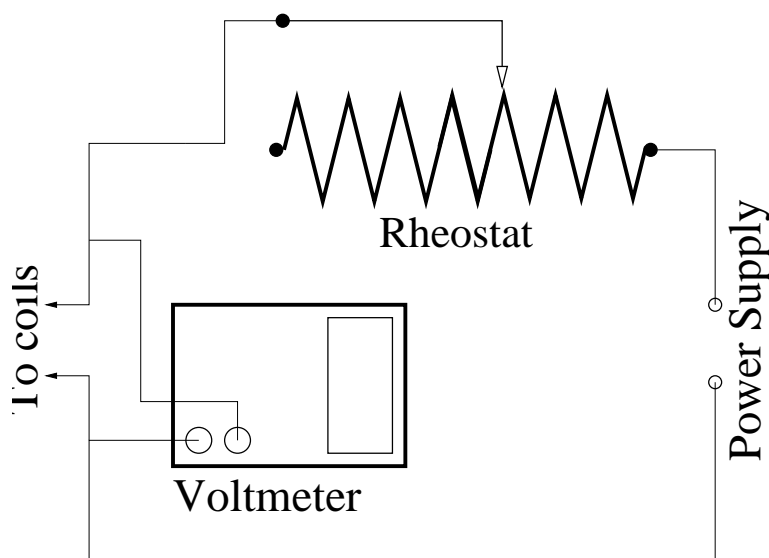
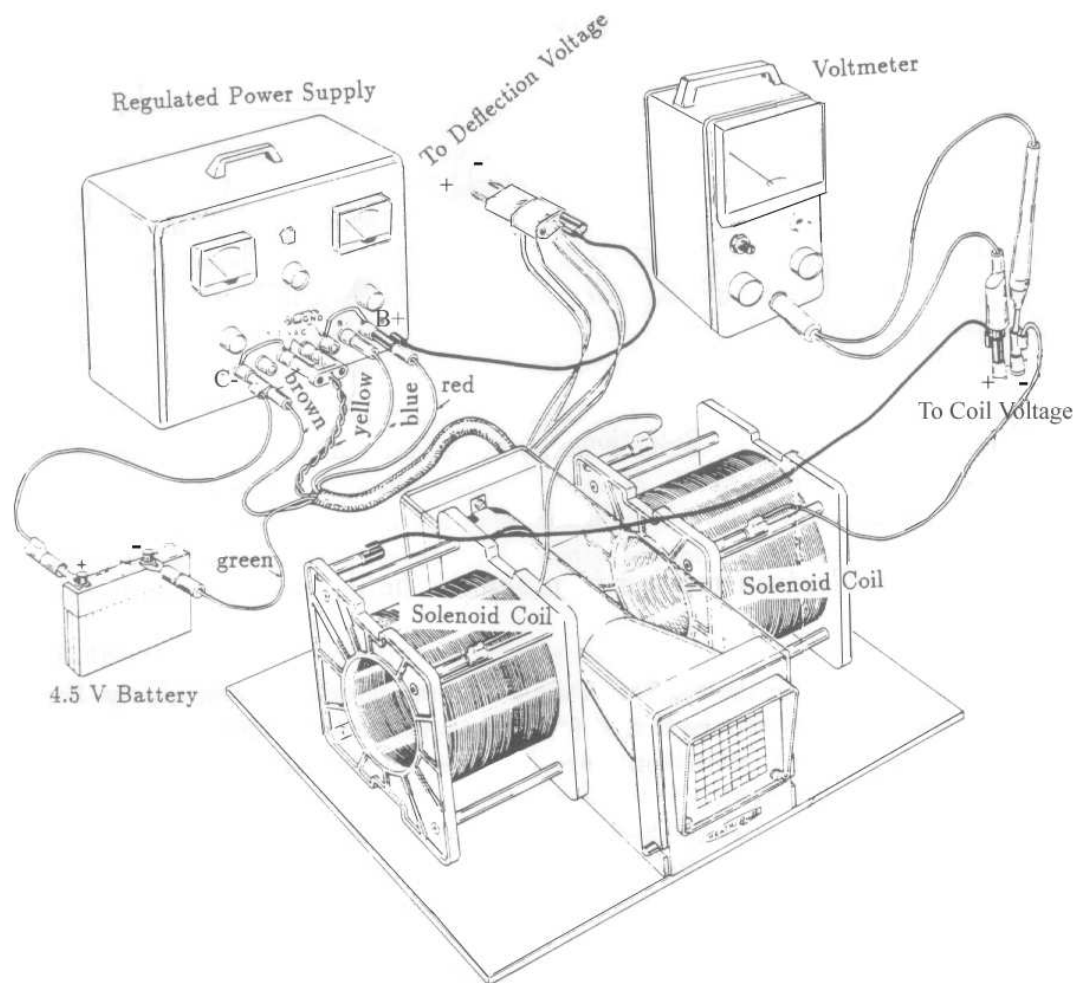

Figure 4. Connection of the power supply to the coils.
Figure 5. Drawing of experimental apparatus.
- A-1.** The apparatus should be wired up by your instructor before you come to the laboratory. You may check connections against Fig. 5.
Leave the 30V power supply and voltmeter off and disconnected for now. Check that the 4.5 V battery is connected to the system (see Fig. 5).
Leave the horizontal deflection plates and the coils unconnected. Connect also the digital voltmeter to read the deflection voltage (note that Fig. 5 shows the voltmeter connected to the coils, which will be the case in experiment B).
**B-1.** The two coils should be positioned and wired as shown in the Fig. 5. Switch off the 30V power supply, disconnect it from the deflection plates and connect it to the coils. There should still be a connection between the B+ output of the regulated power supply and the negative output of the 30V power supply. To reduce voltage supplied to the coils include rheostat in one leg of the connection as illustrated in Fig. 4. The voltmeter should be connected to measure voltage supplied to the coils as shown in Fig. 4.